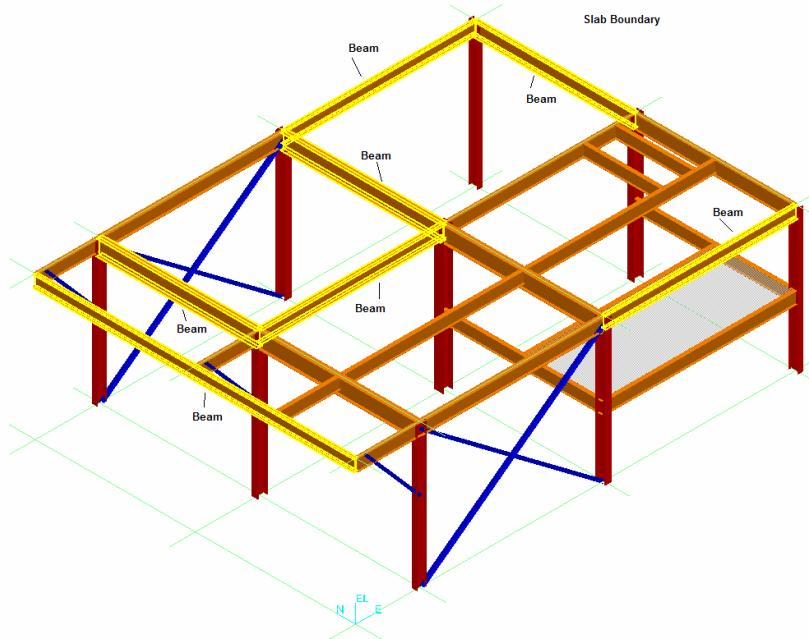

Figure 11 – ISO View of the First Floor Frame
- 3 Select the boundaries as shown in Figure 11 to define the edges of the slab